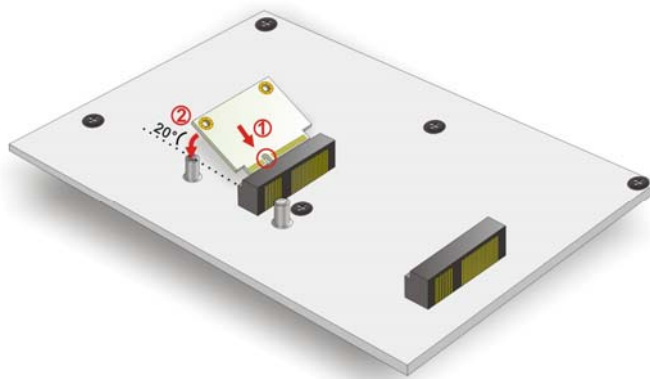

Figure 3-12: Insert the Half-size PCIe Mini Card into the Socket at an Angle
Step 4: Line up the notch on the PCIe Mini card with the notch on the connector. Slide the card into the socket at an angle of about 20° (**Figure 3-12**).